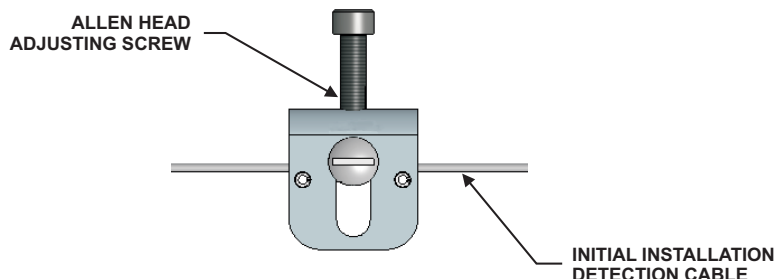

Figure 5-23. Cable Tension Block Assembly
5. Locate the Cable Tension Block Assembly. With the screw threaded out on the Cable Tension Block Assembly, thread the detection cable through the cable tension block (see Figure 5-23).